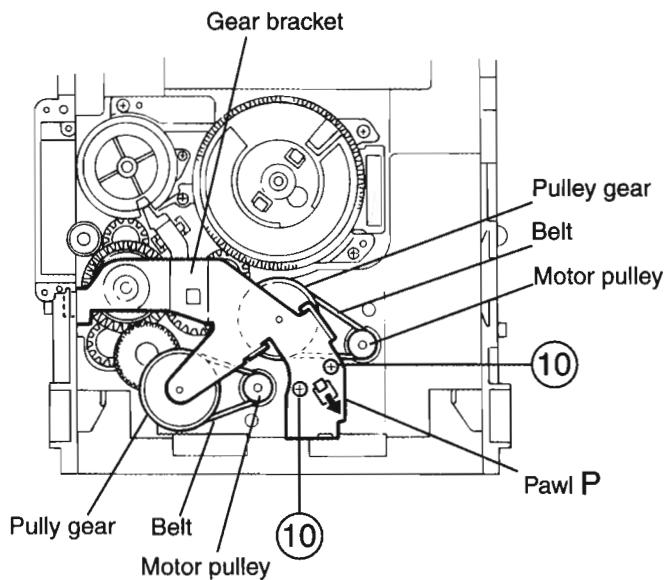

Fig.19
■ Removing the actuator motor and belt (See Fig.19~22)
1. Remove the two screws 10 retaining the gear bracket (See Fig.19).
2. While pressing the pawl "P" fixing the gear bracket in the arrow direction, remove the gear bracket (See Fig.19).
4. Remove the belts respectively from the right and left actuator motor pulleys and pulley gears(See Fig. 19).